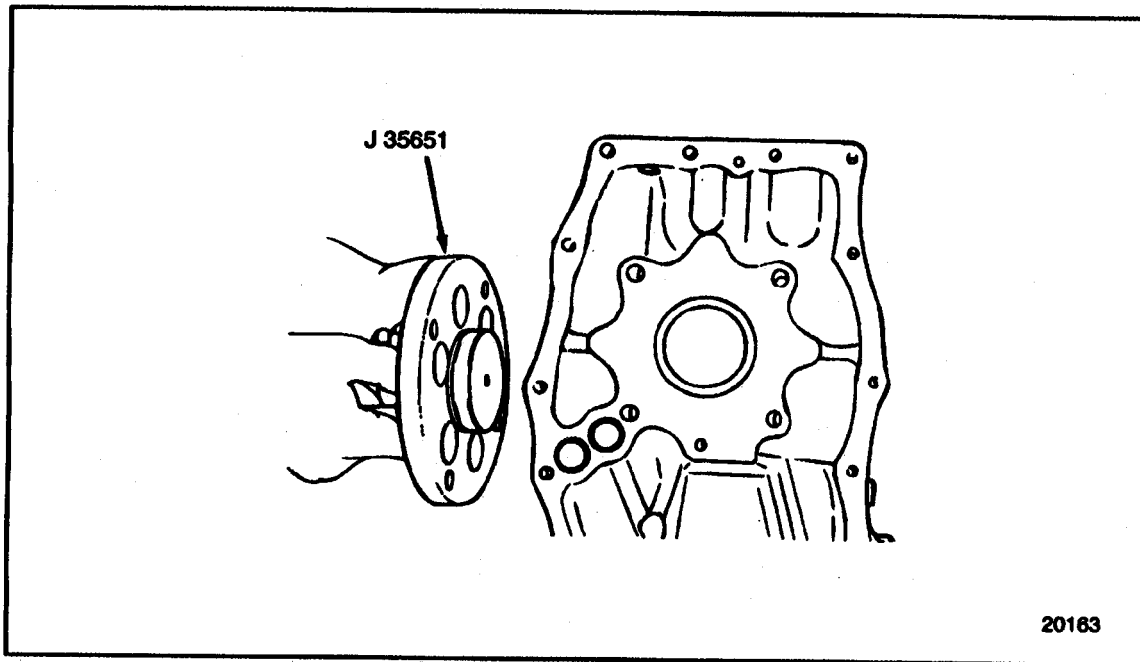

Figure 1-195 **Gear Case Alignment Plug**
2. Insert gear case alignment plug, J 35651, into the bull gear and camshaft idler gear hub recess in the cylinder block. See Figure 1-195.